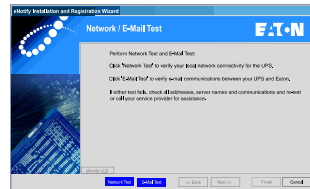

Figure 23. Perform Network and E-Mail Tests
13. On the Network/E-Mail Test screen (Figure 23), test your network and e-mail settings to verify that the connections were successful: